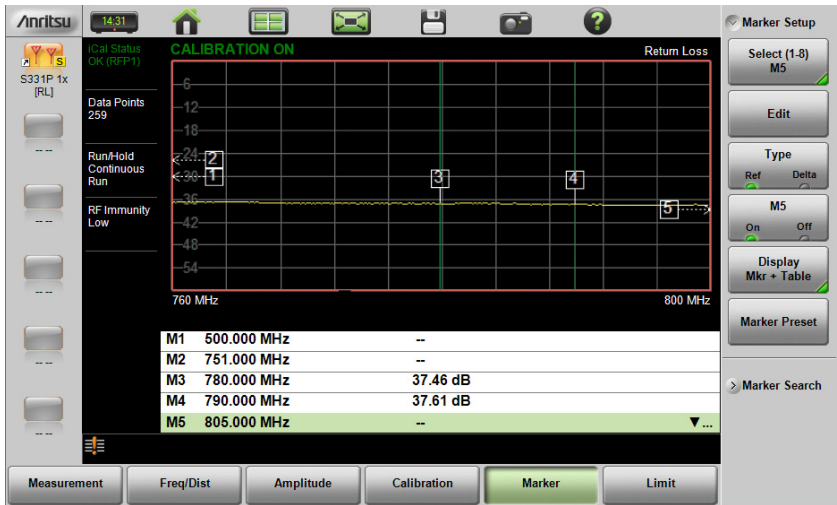

Figure 3-29. Markers 1, 2, and 5 are Out of Range
- If the frequency (F1 or F2) or distance (D1 and D2) parameters are moved inside a current marker location, the out-of-range (---> or <----) indicator is displayed and marker values in the table are blanked (--). See Figure 3-29 for an example of markers outside the current span.